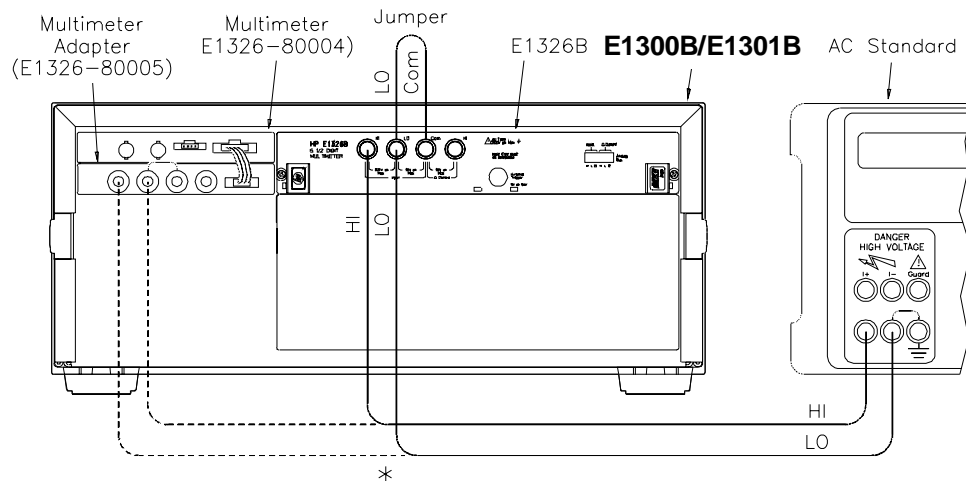

Figure 5-2. AC Voltage Adjustment Setup
1. Connect the equipment as shown in Figure 5-2. You can connect to the E1326B OR the E1326-80005 terminals, but not to both.